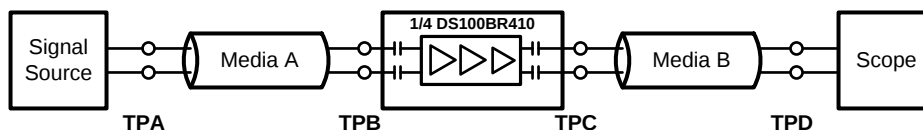

Figure 1. Test Setup Diagram
(3) Measured with clock-like {11111 00000} pattern.
(4) Measured with clock-like {11111 00000} pattern.
(5) The de-emphasis level of -3 dB, -6 dB, -9 dB are for V_{OD} = 1.2 Vp-p. At lower V_{OD} level, the de-emphasis levels are reduced.
(6) Random jitter contributed by the equalizer is defined as $\sqrt{J_{OUT}^2 - J_{IN}^2}$. J_{OUT} is the random jitter at equalizer outputs in ps-rms, see point C of Figure 1; J_{IN} is the random jitter at the input of the equalizer in ps-rms, see point B of Figure 1.
(7) Deterministic jitter is measured at the differential outputs (point C of Figure 1), minus the deterministic jitter before the test channel (point A of Figure 1). Random jitter is removed through the use of averaging or similar means.